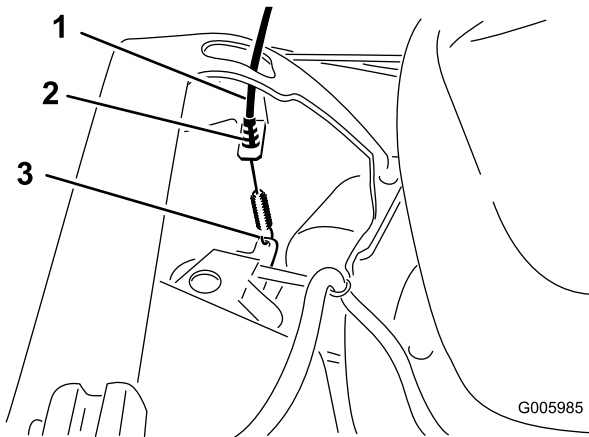

Figure 6
3. Route the self-propel drive cable down the inside of the handle, thread the cable through the opening on the left hand side of the housing, and attach the cable end (Figure 6).